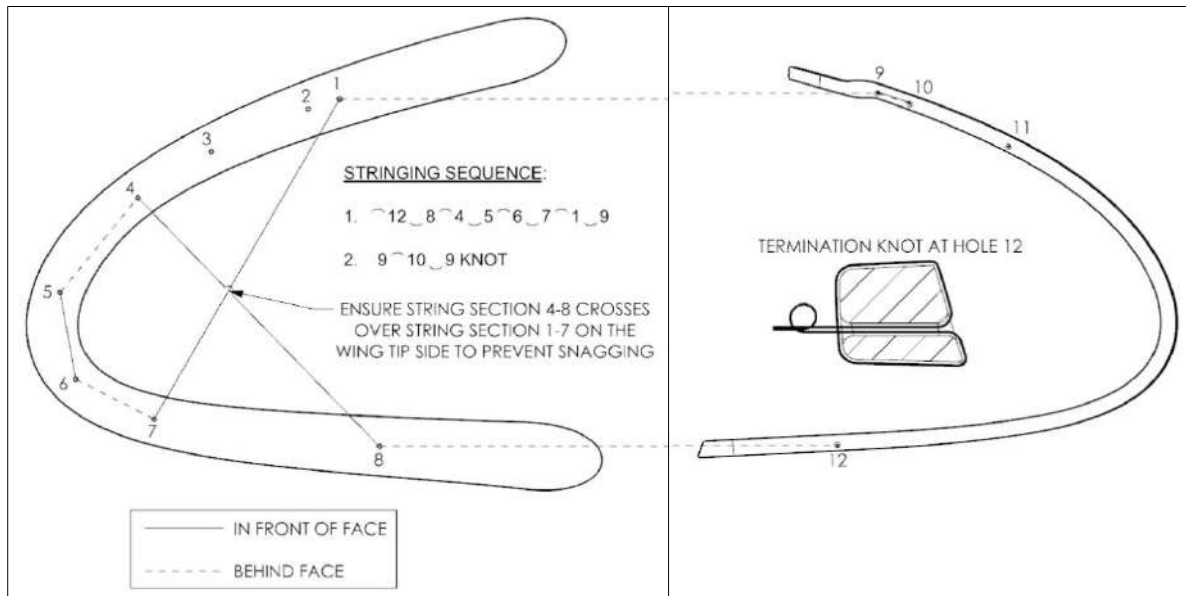

Figure 57-4: Bug wiper stringing
4. Install a new string (Figure 57-4).